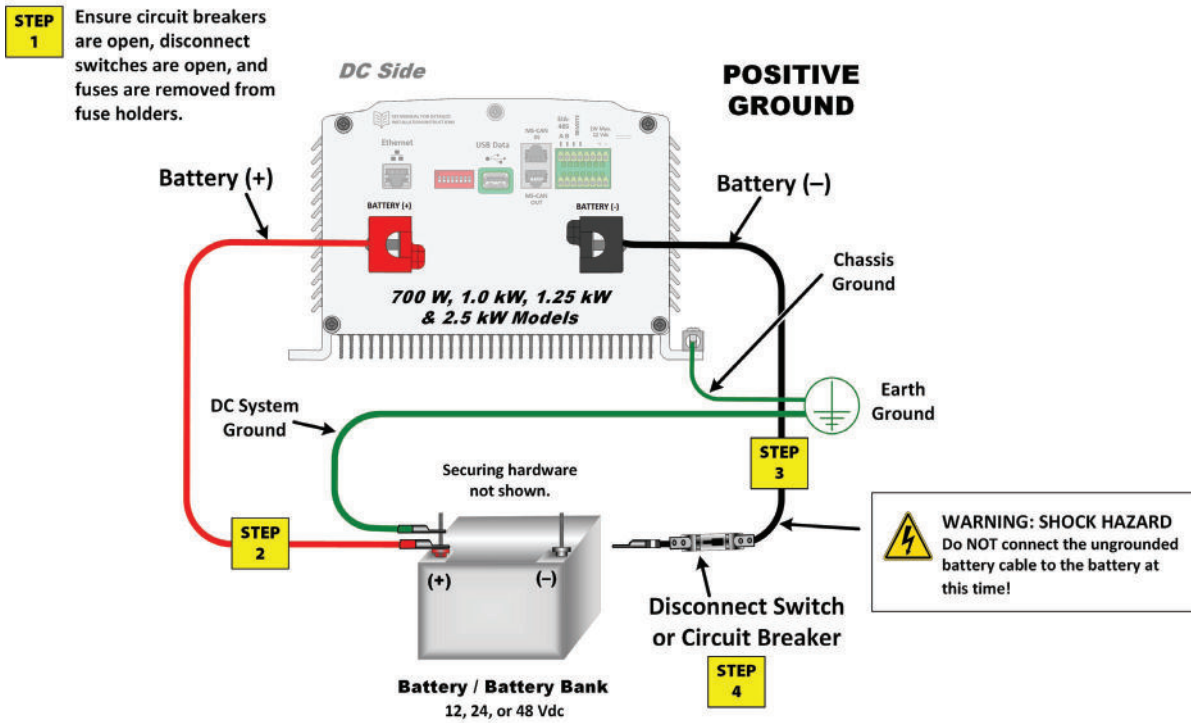

Figure 19: DC Connections on 700 W to 2,500 W Models with Positive Grounding
- **For 700 W, 1,000 W, 1,250 W & 2,500 W Models:** Figure 19 on page 25